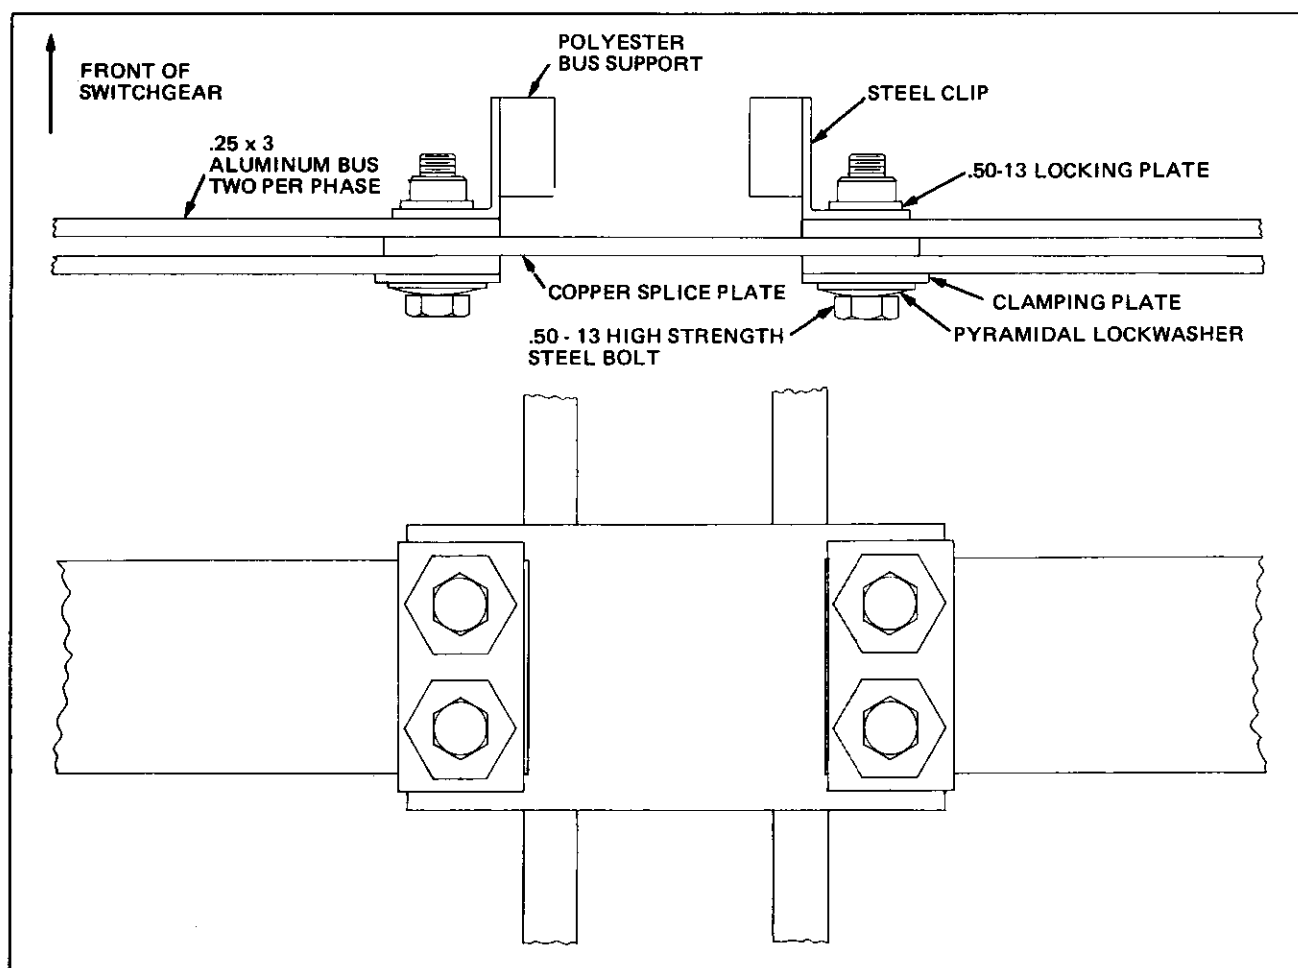

Fig. 37a Field Assembly of Joints in 1600/2000 Amp. Aluminum Bus
Two (2) .25 x 3.0 inch aluminum bars per phase are used, with a single .25 x 4.0 copper splice plate at bolted connections. See Fig. 37a, 37b, and 37c.